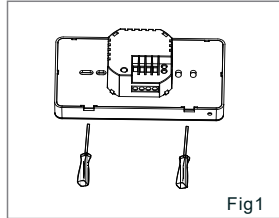

Fig1
Step 1: Use a screwdriver to pry open the mounting plate along the buckle position. After prying open, connect the cable to the screen and the power box without removing the cable.(Fig1).